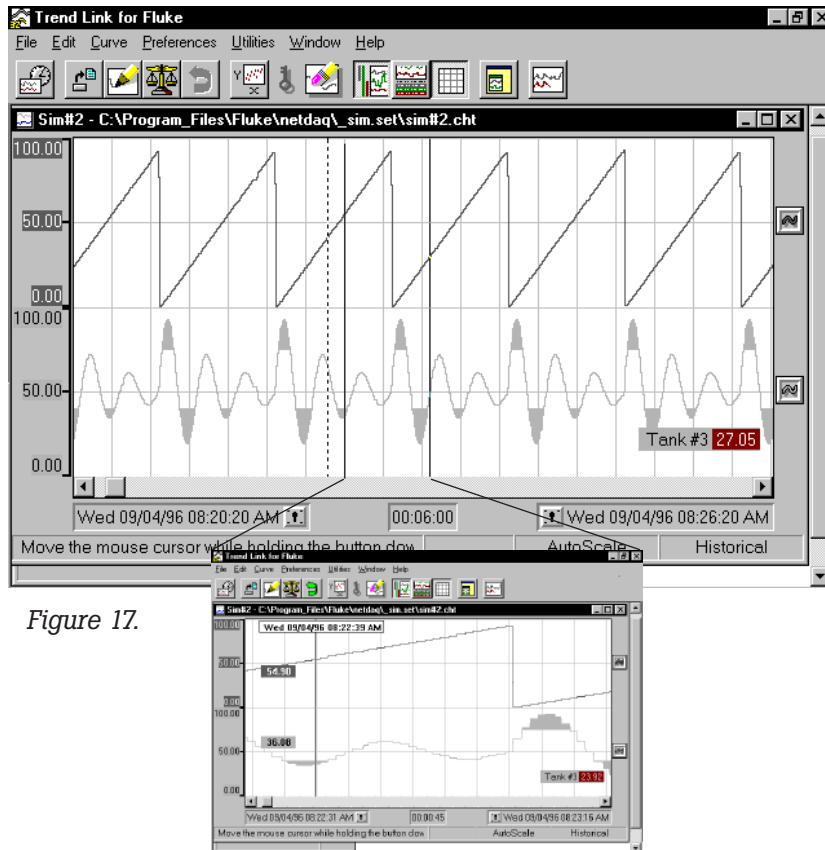

Figure 17.
2. Move your mouse to the right and double-click the mouse again. You will zoom in on the data between the two places you double clicked. You are now in historical mode (Figure 17).